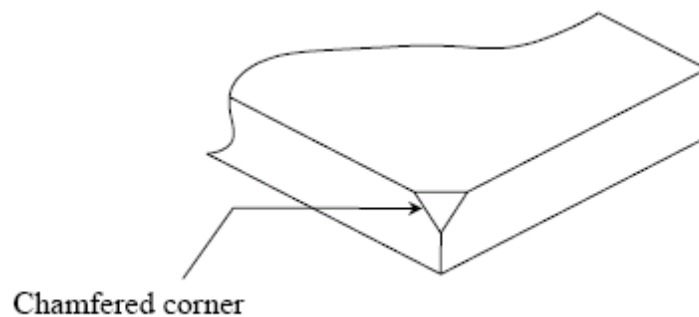

Figure 15
- Intersection corner shall be chamfered at 45 degrees (See Figure 15).